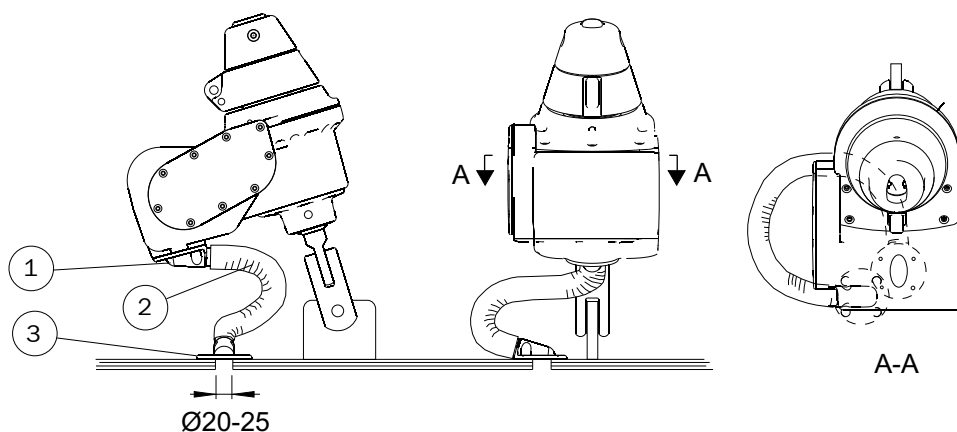

Fig. 5.6
9. Fig. 5.6 shows an example of mounting the collar and sleeve.
13. Feed the protective sleeve with the two supplied hose clamps, over the cables C3. Mount the sleeve on the drive unit cable collar ① (fig. 5.6). Use a driver with a hex socket intended for hose clamps and tighten firmly.
14. Feed the cables through the deck collar ③ (fig. 5.6) and then fit the sleeve.